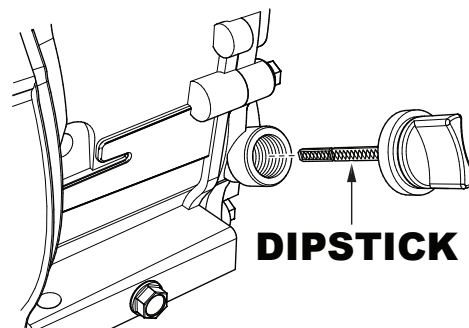

Figure 8. Engine Oil Dipstick Removal
2. Remove the dipstick from the engine oil filler hole (Figure 8) and wipe it clean.